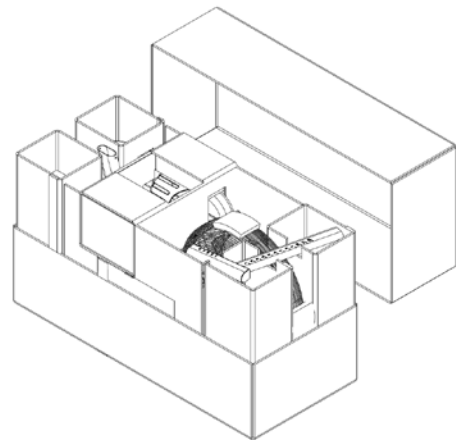

Fig. 2
2. Cut all straps and remove the top half (Fig. 2) of the cardboard box to expose the base and assembly components of the machine.